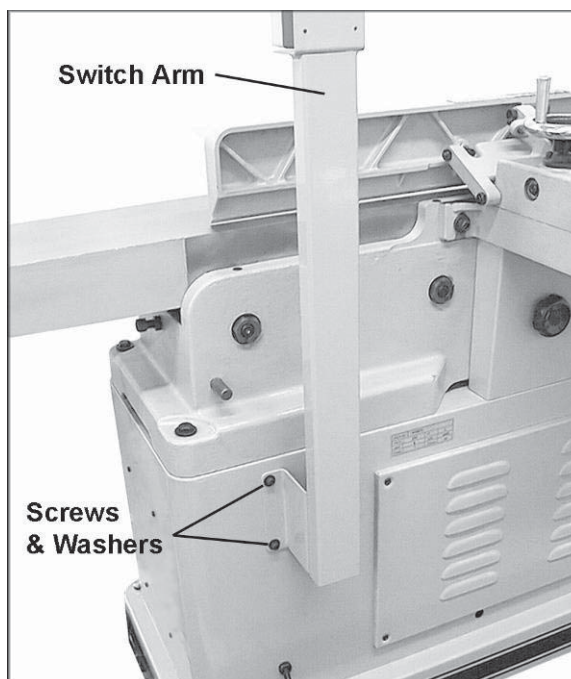

Figure 3
1. The switch arm was shipped in horizontal position. Loosen and remove the four socket head cap screws and flat washers on the bracket of the switch arm (Figure 3) with a 5mm hex wrench. Hold on to the switch arm while doing this, to prevent the arm from falling.
2. Place the switch arm in vertical position, as shown in Figure 3, and align the four holes in the bracket with the four holes in the jointer stand.
3. Re-insert the four socket head cap screws with the four flat washers, as shown in Figure 3.